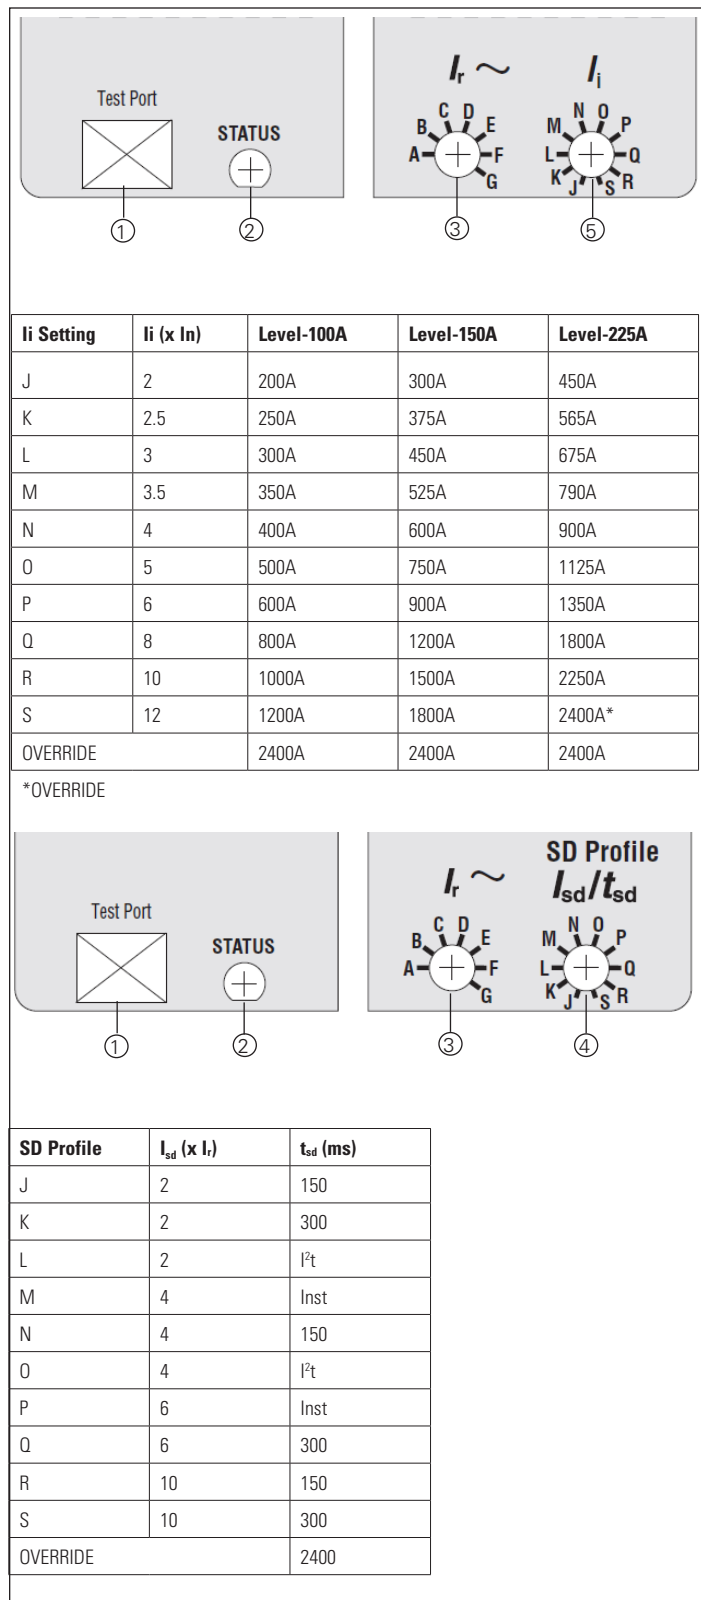

Figure 8. Trip Unit Settings for FDE 210+.
B. 210+ Trip Unit Controls and Settings (refer to Figure 8)
- SD Profile (I_{sd} / t_{sd})** - Short delay protection profile setting. For the LSI protection type, this switch is used to refine the protection settings as shown in Figure 8. The unique profile switch allows for short delay current pickup level and time delay parameters to be selected with one switch setting. Each position of the switch offers a typical application group of settings for protection and coordination. The lettered (J-S) settings are indicated by the chart displayed on the right side of the trip unit label.
- I_i - Instantaneous threshold setting.** - For LI protection type, this switch is used to select the instantaneous threshold as a multiple of the frame rating (I_n). The lettered (J-S) settings indicated specific settings, as shown in Figure 8, and are also displayed on the right side of the trip unit label.